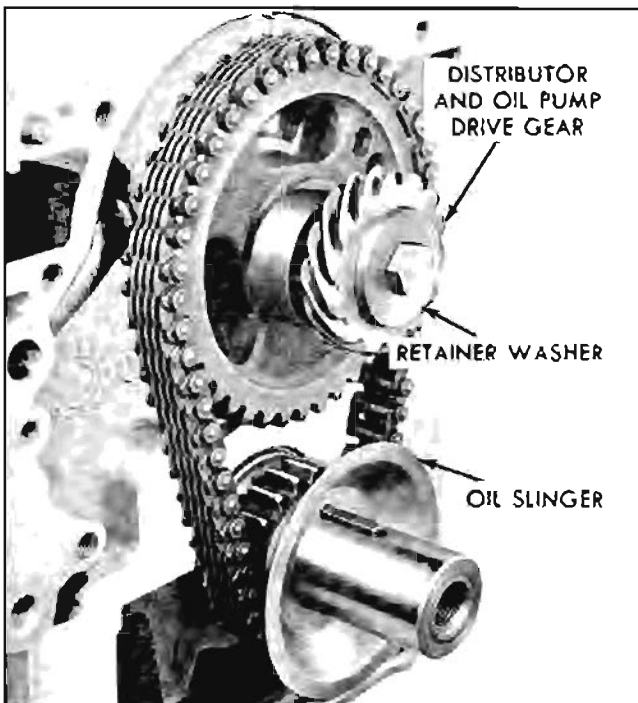

Fig. 6-104 Front of Engine with Timing Chain Cover Removed
6. Install distributor drive gear (Fig. 6-104).
7. Install drive gear and eccentric bolt and retainer washer (Fig. 6-104). Torque to 40-45 lb. ft.
4. Replace oil slinger, (Fig. 6-104).